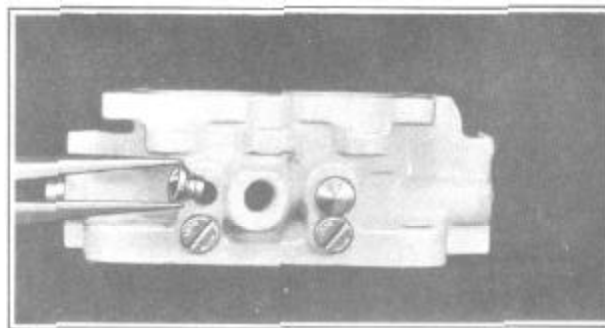

FIGURE 66
6. Install idle adjusting screws and NEW idle port plugs, Figure 66.